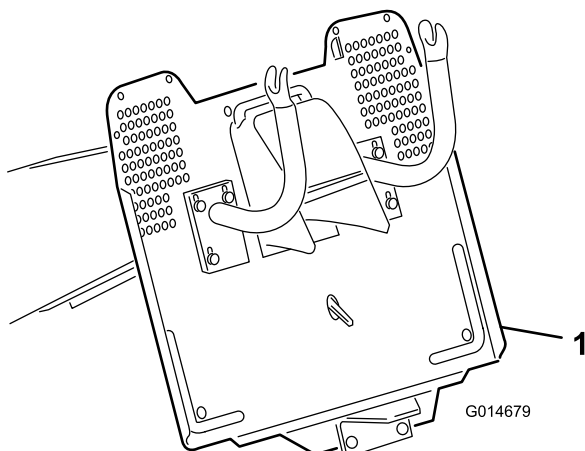

Figure 18
2. Install the attachment to the towing hitch located at the lower rear part of the machine (Figure 18).